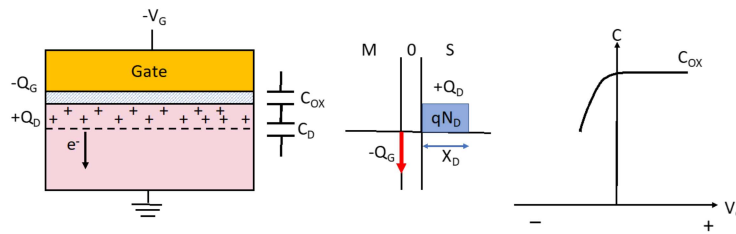

Figure 14: PMOS - Depletion
10. Consider an n-type Silicon substrate with a positive voltage $+V_G$ on the gate as shown in fig.14.